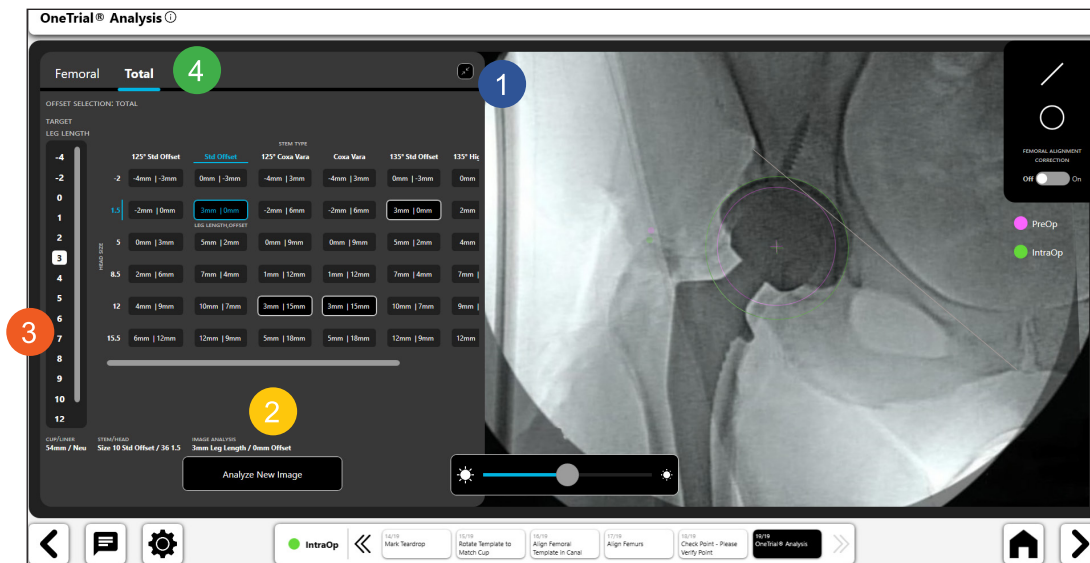

Figure 70: OneTrial™ Analysis – Expanded Chart
- Two user views as shown in Figures 70 and 71